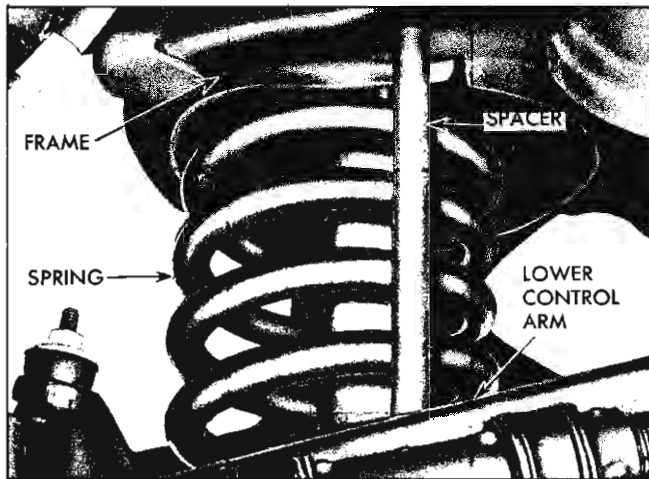
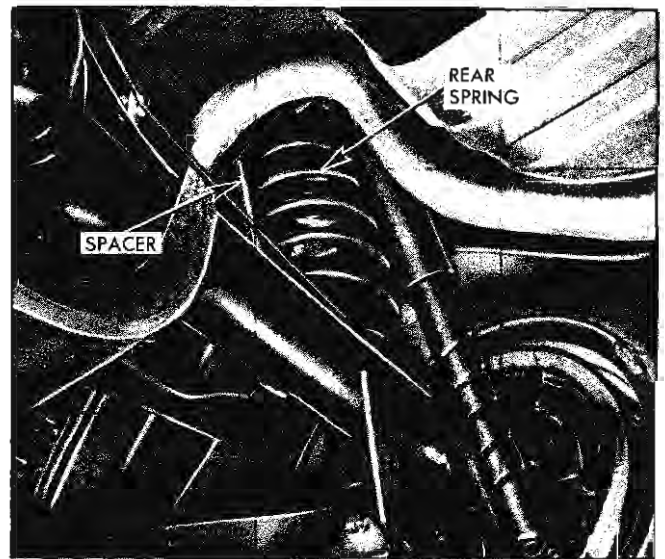

Fig. 3-10 Spacer Inserted to Set Front Suspension
Fig. 3-11 Spacer Inserted to Set Rear Suspension
The tendency to remain upward and downward will be more noticeable on new cars because the suspension parts have not yet become burnished and completely free. For this reason, alignment on new cars should not be done unless the curb height is set to correspond with heights as shown in Fig. 3-10, Front Suspension, and Fig. 3-11, Rear Suspension. Blocks, or spacers made of rod or tubing, will be useful in positioning parts.
1. At front, measure height from top of lower control arm to underside of frame at a point directly behind center line of spring (See SPECIFICATIONS and Fig. 3-10).
2. At rear, measure height from top of axle housing to top of spring seat at a point approximately  $1\frac{1}{2}$ " outward from rubber bumper on frame. (See SPECIFICATIONS and Fig. 3-11).